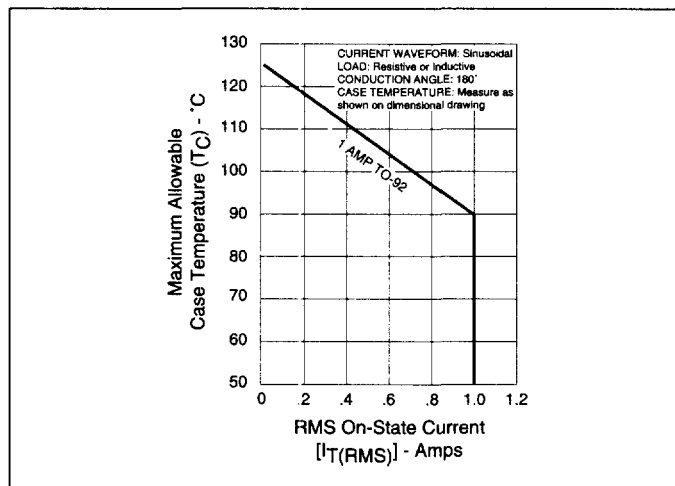
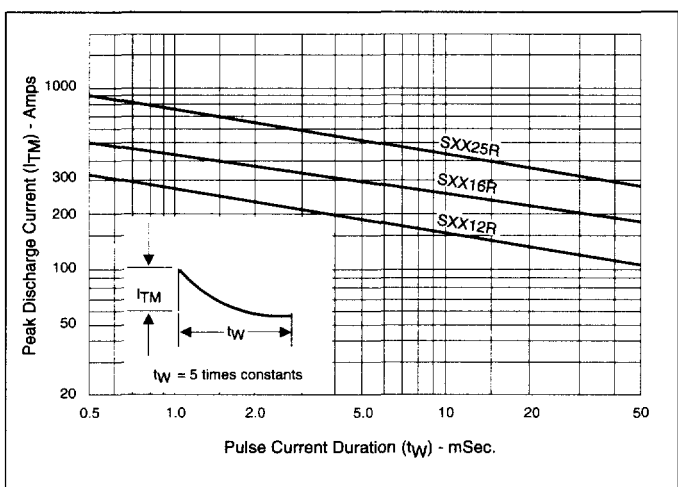

Figure 6.5 Maximum Allowable Case Temperature vs RMS On-State Current (TO-92, 1 Amp)
Figure 6.3 Peak Capacitor Discharge Current for 12R, 16R, and 25R
- (1) See Figures 6.5 through 6.16 for current rating at specified operating case temperature.
- (9) Test conditions are as follows: $i_T = 1A$ for 1.0A devices and 2A for all other devices. Pulse duration = 50 μ s, $dv/dt = 20V/\mu$ s, $di/dt = -10A/\mu$ s for 1.0A devices, and -30A/ μ s for other devices. $I_{GT} = 200mA$ at turn-on.
- (10) See Figures 6.5 through 6.10 for maximum allowable case temperatures at maximum rated current.
- (11) Pulse width $\leq 10\mu$ s.
- (12) Initial on-state current = 200mA(DC) for 1 through 16A devices; 400mA(DC) for 20A through 70A devices.
- (13) $T_C = T_J$ for test conditions in off-state.
- (14) The "R", "K" or "M" package rating is intended for high surge condition use only and not recommended for $\geq 50A$ (RMS) continuous current use since narrow pin lead temperature can exceed PCB solder melting temperature. Recommend for $\geq 50A$ (RMS) continuous current requirements, Teccor's "J" or "W" package.
- (15) For various durations of an exponentially decaying current waveform, see Figures 6.3 and 6.4. (t_w is defined as 5 time constants.)